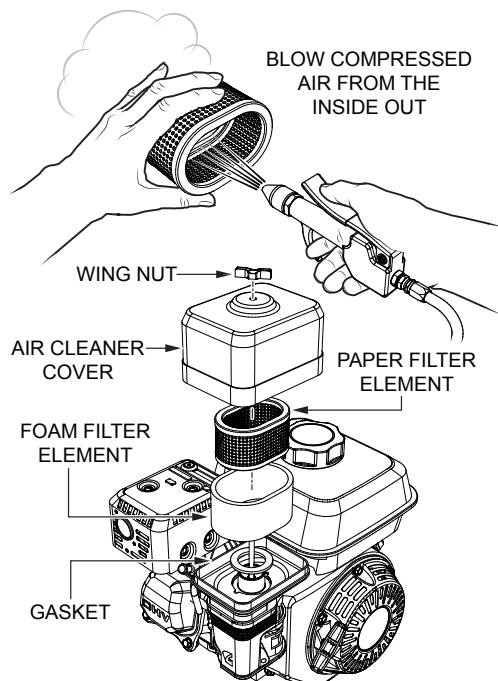

Figure 33. Engine Air Cleaner (Dual Element)
1. Remove the air cleaner cover and foam filter element as shown in Figure 33.
2. Tap the paper filter element (Figure 33) several times on a hard surface to remove dirt, or blow compressed air [not exceeding 30 psi (207 kPa, 2.1 kgf/cm²)] through the filter element from the air cleaner case side. **NEVER** brush off dirt. Brushing will force dirt into the fibers. Replace the paper filter element if it is excessively dirty.